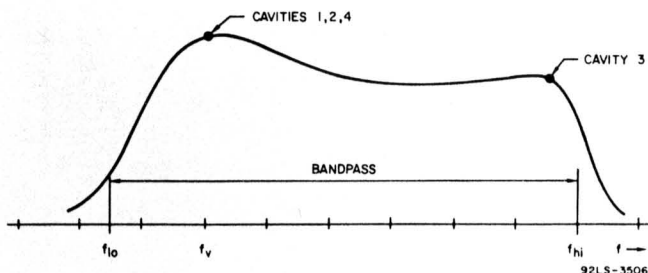

Figure 6 — Response Presentation after Tuning Cavity 3 to 0.5 MHz below F_{hi}
5. Tune cavity 3 lower in frequency (counterclockwise) until its peak appears on the screen at a point about 0.5 MHz below the upper end of the desired bandpass as shown in Figure 6. Adjust drive level if necessary.